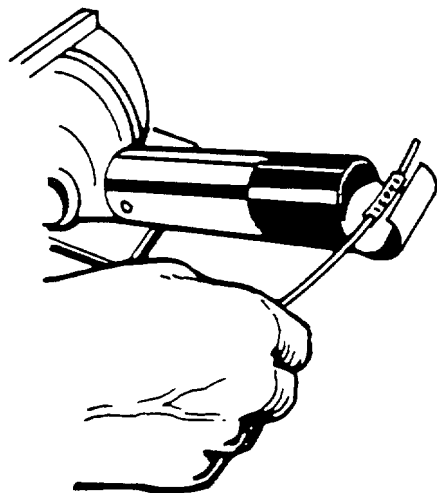

Figure 28. Shrinking Marker on Wire
d. Shrink marker sleeve, using heat gun with shrink tubing attachment (Figure 28)